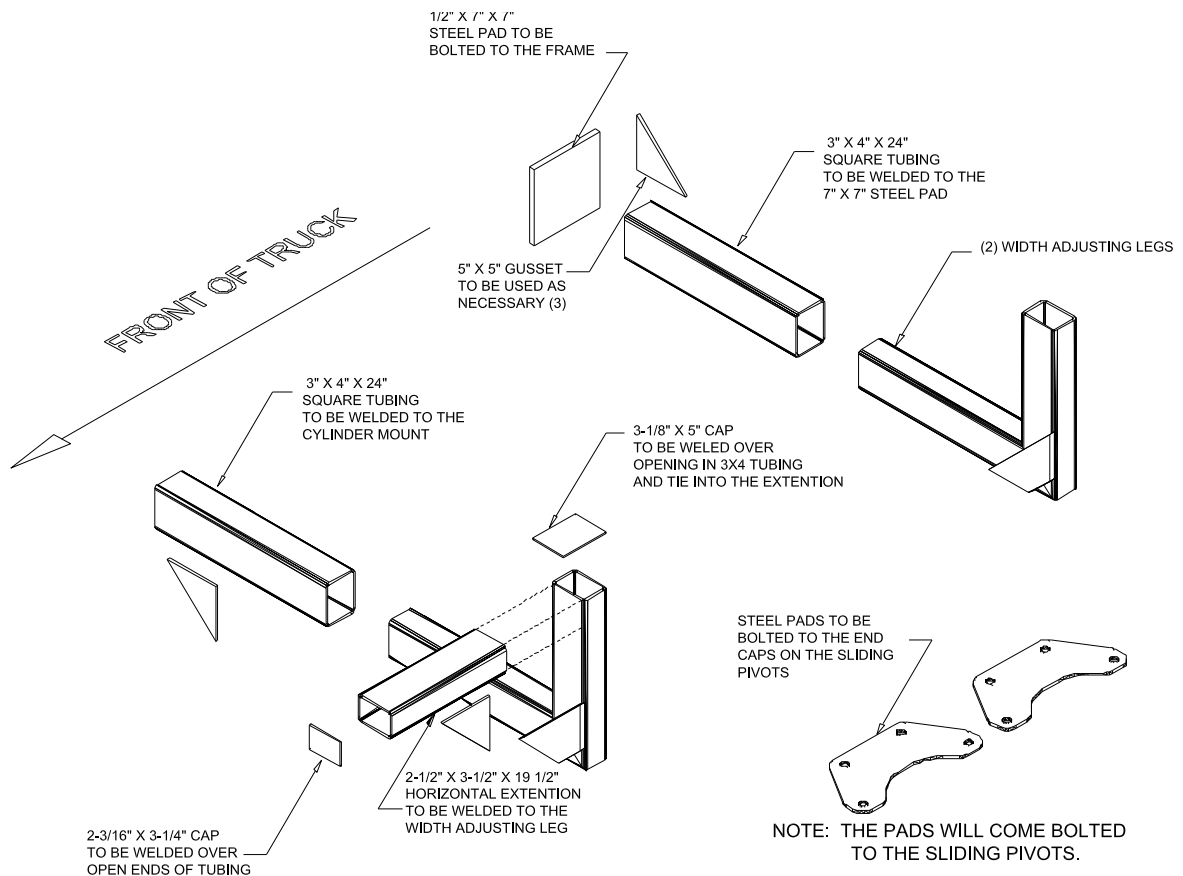

Figure 7
**Note:** The aluminum sliding pivots have part of the mounting kit attached to them already. (4 steel pads that are bolted to the cast end caps.) The rest of the mounting kit consists of (4) width-adjusting, "L" shaped legs, (4) single pieces of 3" x 4" square tubing, (2) 2 3/16" X 3 1/4" steel caps, (2) 3 1/8" X 5" steel caps, (2) 7 X 10 steel plates, and (2) 2 1/2 X 3 1/2 X 21" pieces of tubing. Refer to fig. 7 below.
4) Measure the length of the sliding pivots. Determine if you need to extend the mounts to get the center of the pivot pin in the sliding pivots to line up with the center point mark made earlier. Refer to figures 7 & 8 on following pages.
5) Cut the extension pieces to the desired length and weld them horizontally to the front and/or back legs of the mounts. Use the (2) pieces of 3 1/8" X 5" pieces of steel strap to tie the extension legs to the "L" shaped legs. Refer to Fig. 7 on next page and Fig. 4 on page 13 for parts descriptions.